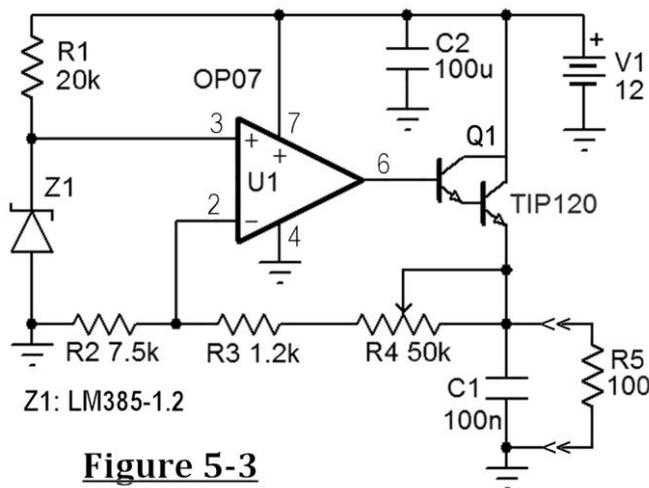

Figure 5-3
Refer to figure 5-3 below. The voltage on the op-amp's non-inverting input is held constant by the 1.2V voltage reference IC, U2 (symbolized as a zener diode) to improve the power supplies line and load voltage regulation. Voltage references are available in a variety of voltage values and accuracies.
1. Build the circuit in figure 5-3 on a breadboard. Use a trim-pot for the 50k potentiometer.